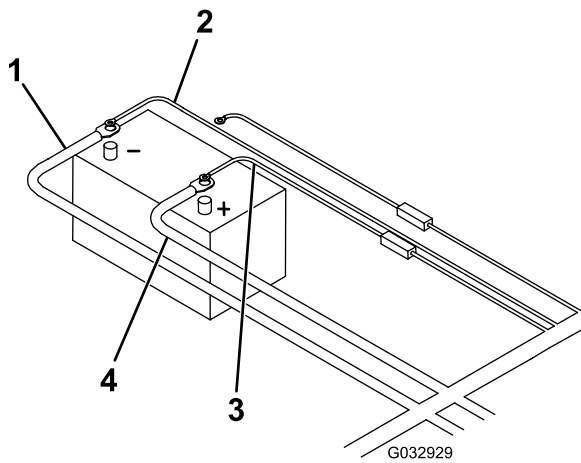

Figure 18
23. Connect the black power/ground cable to the negative (-) battery terminal (Figure 18).
24. Connect the brown wire to the negative (-) battery terminal (Figure 18).
25. Connect the free end of the battery cable to the positive (+) battery terminal (Figure 18).
26. Connect the red, fused wire to the positive (+) battery terminal (Figure 18).